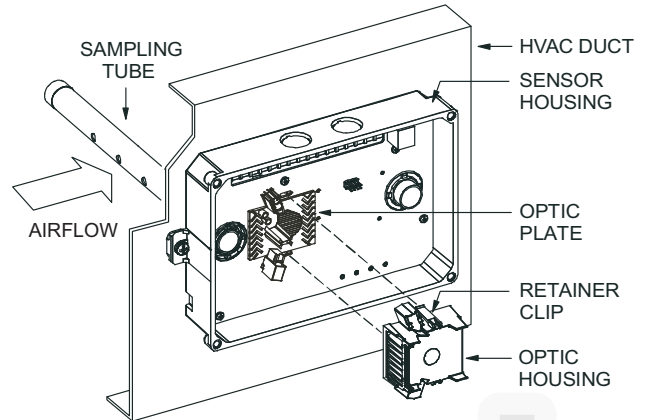

Fig. 48 — Sensor Cleaning Diagram
1. Disconnect power from the duct detector then remove the sensor's cover. (See Fig. 48.)